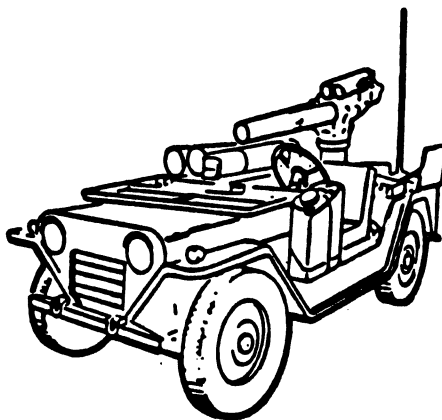

Fig 4-25. Antenna released from the tie-down hook
Step 2. Release the radio antenna from the tie-down hook (fig 4-25).